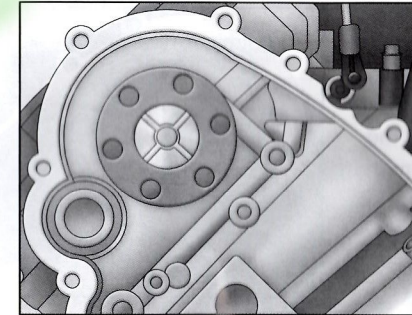

Fig.28
- (7) Remove the chain tensioner. (Fig.28)